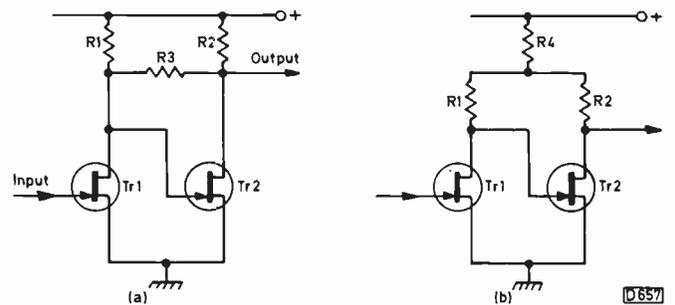

Fig. 4: Feedback arrangements as in Fig. 3 but this time with field effect transistors.
What happens if Tr1 and Tr2 are field-effect transistors or valves, i.e. voltage-operated devices? We can't in this case analyse the circuit behaviour in terms of currents because these devices respond only to the voltage applied to the gate or grid. Fig. 4 is a repeat of Fig. 3 with junction-gate field-effect transistors replacing the bipolar transistors.
In Fig. 4(a) R1 and R3 comprise a voltage divider across Tr2's load resistor R2, applying a fraction –  $R1/(R1 + R3)$  – of the output voltage  $V_{out}$  to Tr2's gate. If the value of R3 is large compared to that of R2, as is usual, the division ratio becomes approximately  $R1/R3$  and the feedback voltage is  $(V_{out}R1)/R2$ . Provided the feedback employed is considerable, this is almost equal to the input voltage  $V_{in}$  provided by Tr1. Thus  $V_{in} = (V_{out}R1)/R3$ , so that Tr2's voltage gain is given by:
In Fig. 4(b) the voltage divider across Tr2's output is formed by R2 and R4. The feedback voltage generated across R4 is applied to Tr2's gate via R1. Thus Tr2's voltage gain is given by:
For equal voltage gain with the two circuits shown in Fig. 4 we have from expressions (3) and (4)  $R3/R1 = R2/R4$ , giving  $R3R4 = R1R2$ , which is precisely the same result we had with the bipolar transistor circuits. This general result is therefore applicable to all forms of active
If, in addition to establishing the gain and improving the linearity, the negative feedback is used to shape the frequency response, there may be a good reason for choosing one type of circuit rather than the other. For example, R3 in Fig. 3 and Fig. 4 could be shunted by a capacitor to increase the h.f. negative feedback, providing a response that falls as the frequency rises. To achieve the same result with a T-section network it would be necessary to add an inductor in series with R4. Connecting a capacitor in series with R3 would reduce the feedback as the frequency falls, giving a response that rises with decreased frequency. To obtain the same response with a T-section network an inductor would be required in parallel with R4. If a capacitor is connected in parallel with R4 the response rises as the frequency is increased. To obtain this result with a pi-section network an inductor would be required in series with R3. Since no one likes to use an inductor where a capacitor can be used to achieve the same effect, pi or T networks can be used depending on the shape of the required frequency response. It's significant that in each of these three examples a capacitor included in one network requires an inductor in the other to give the same frequency response shape.
Applying the series/shunt transformation to Fig. 5 gives us the circuit shown in Fig. 6. Here the ratio of  $R_2$  to  $R_4$  determines the overall voltage gain and  $R_5$ , which in Fig. 5 determines the degree of feedback, no longer serves any useful purpose. In fact it attenuates the feedback voltage applied to  $Tr_1$ 's emitter and can be eliminated, giving the circuit shown in Fig. 7. This is often used as a linear voltage amplifier – see for example  $Tr_1/2$  in Fig. 4 on page 113 of the December 1986 issue of *Television*.